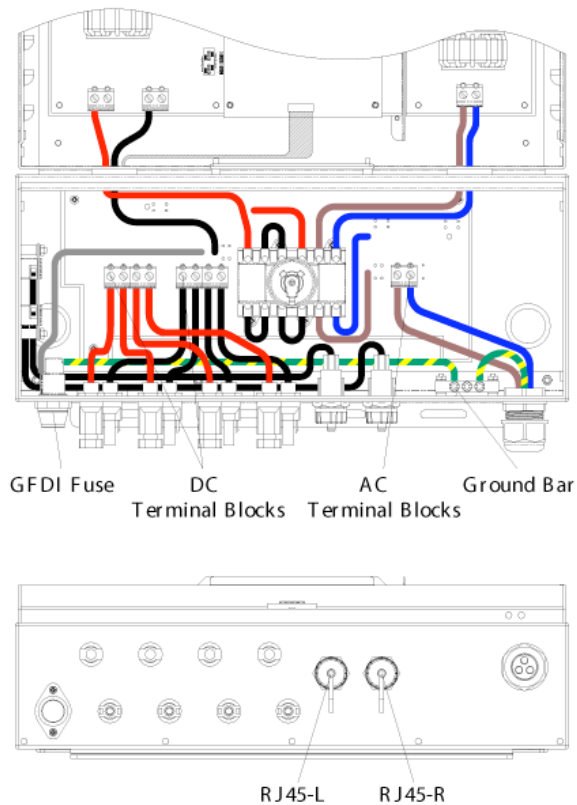

Fig 2.3.5 Wiring box front view
The three following sections describe the wiring for the AC outputs, DC inputs, and communication ports. There is one (1) AC terminal block, a pair of DC terminal blocks and two (2) RJ-45 connectors in the wiring box as shown in the figure 2.3.5. The AC terminal block is used to connect to the utility grid through a circuit breaker and distribution panel according to national and local requirements. The DC terminal blocks are used to connect up to 4 PV strings in parallel in the wiring box. The RJ-45 connectors are used for external communication to a remote computer, terminal or another inverter in a Daisy Chain type connection.